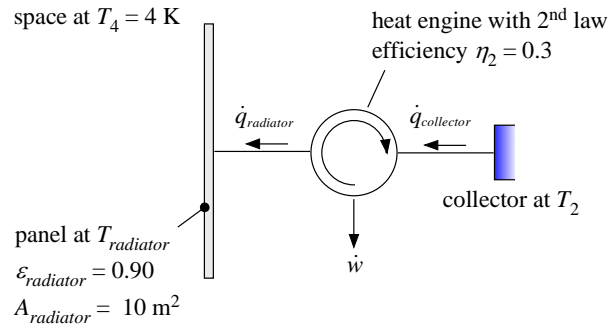

**Figure P10.5-8(a): Energy collection system**
**10.5-8 (10-19 in text)** This problem considers a (fictitious) power generation system for a spacecraft orbiting the planet Mercury. The surface of Mercury can reach 700 K and therefore you are considering the possibility of collecting radiation emitted from Mercury in order to operate a heat engine. The details of the collector are shown schematically in Figure P10.5-8(a).